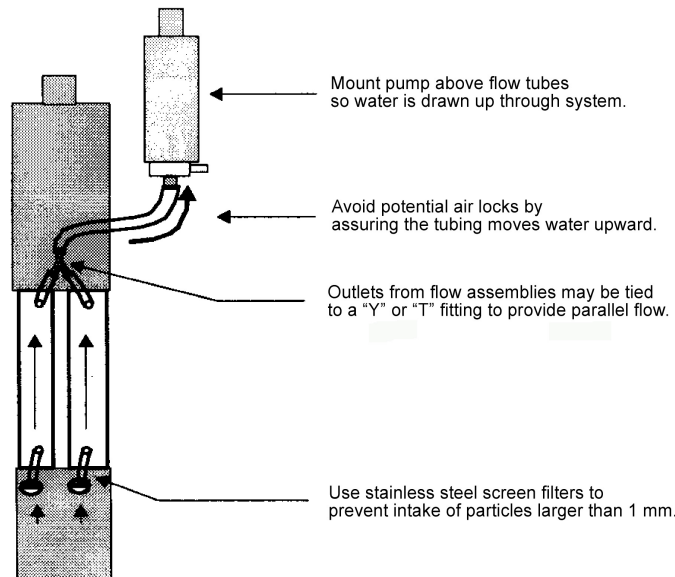

Figure 2. Proper connection of ac-s flow tube
3. Make sure you have provided for an unobstructed upward flow through the flow chambers and the pump (Figure 2).